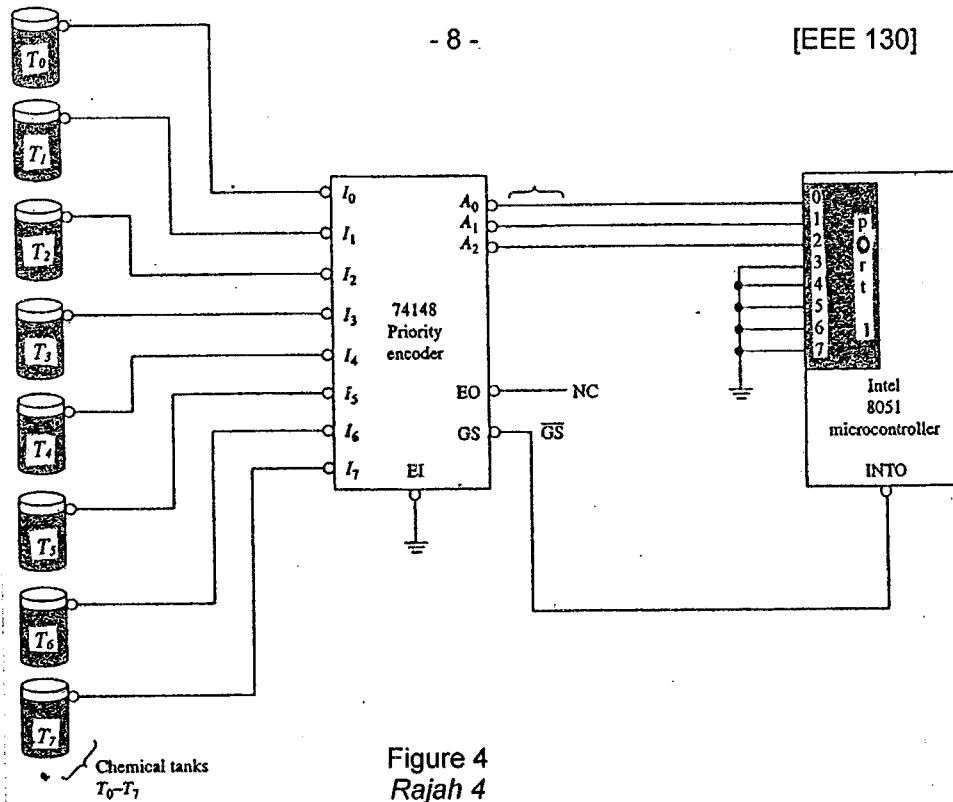

Figure 4
3. (a) What hex number will be read by port 1 of the 8051 microcontroller in Figure 4 if the fluid level is high in the following chemical tanks?
- (b) How is the microcontroller in Figure 4 notified of a high fluid level at one of the chemical tanks?